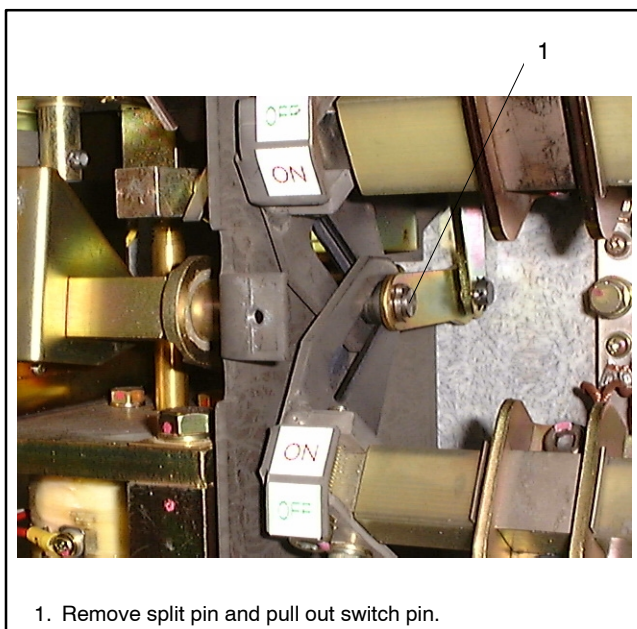

Figure 9-20 Remove pins
2. Remove the split pin and pull out the switch pin. See Figure 9-20.